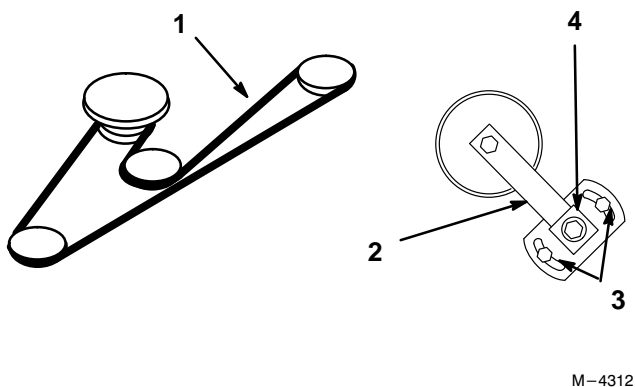

Figure 45
3. Loosen two nuts securing idler plate and move the idler arm to relieve belt tension on the idler pulley, then remove the worn deck belt (Fig. 45).
4. Install the new deck belt around the spindle pulleys, belt guide, the idler pulley, and in the lower groove of the center spindle pulley (Fig. 45).